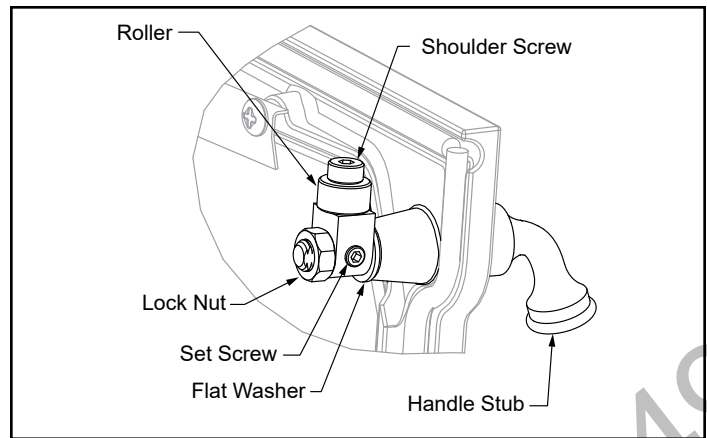

Figure 6.3 - Rotate pawl and/or remove flat washer to adjust latch.
9. The stove's doors may need adjustment after you have regasketed them. Initially, it may require loosening the latch to accommodate the new gasket; after a few weeks, it may need tightening to compensate for compression of the new gasket. See Figure 6.3 for directions on adjusting the latches.